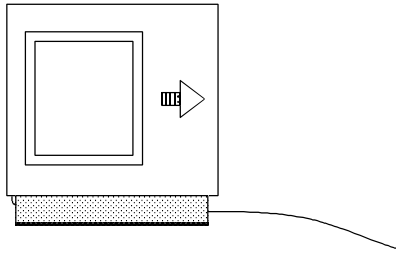
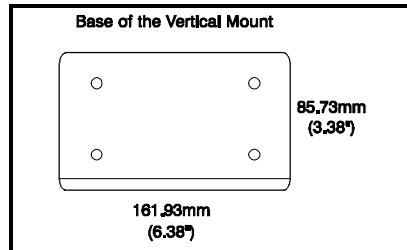

Figure 2
Figure 3
With the Metrologic stand (Part #45472), there is a choice of four directions the scanner can be positioned for the scanner for greater flexibility. Figure 2 illustrates one direction that can be chosen. The stand requires a mounting space of 91.44mmL x 165.1mmW (3.6" x 6.5") to stabilize the stand. Since the arrow of the scanner in Figure 3 is pointing to the right, items must be presented to the scanner from left to right.
1. Drill four holes into the work surface that correspond with the holes in the 161.93mm x 85.73mm (6.38" x 3.38") base of the stand. (See Figure 3)